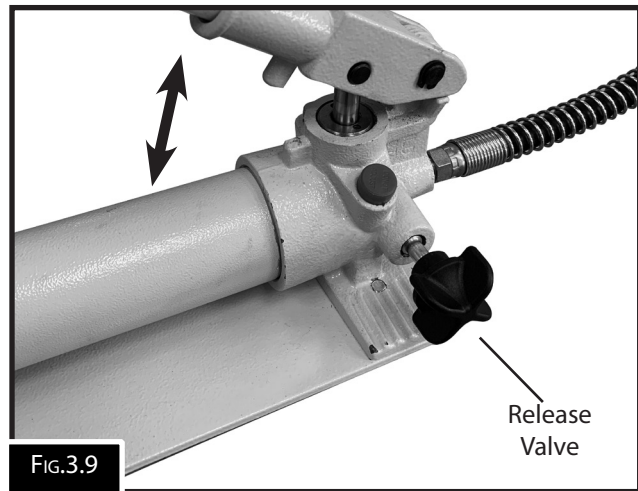

FIG.3.9
2. Pump the handle of the pump around ten full strokes to eliminate any air bubbles. (Fig.3.9)